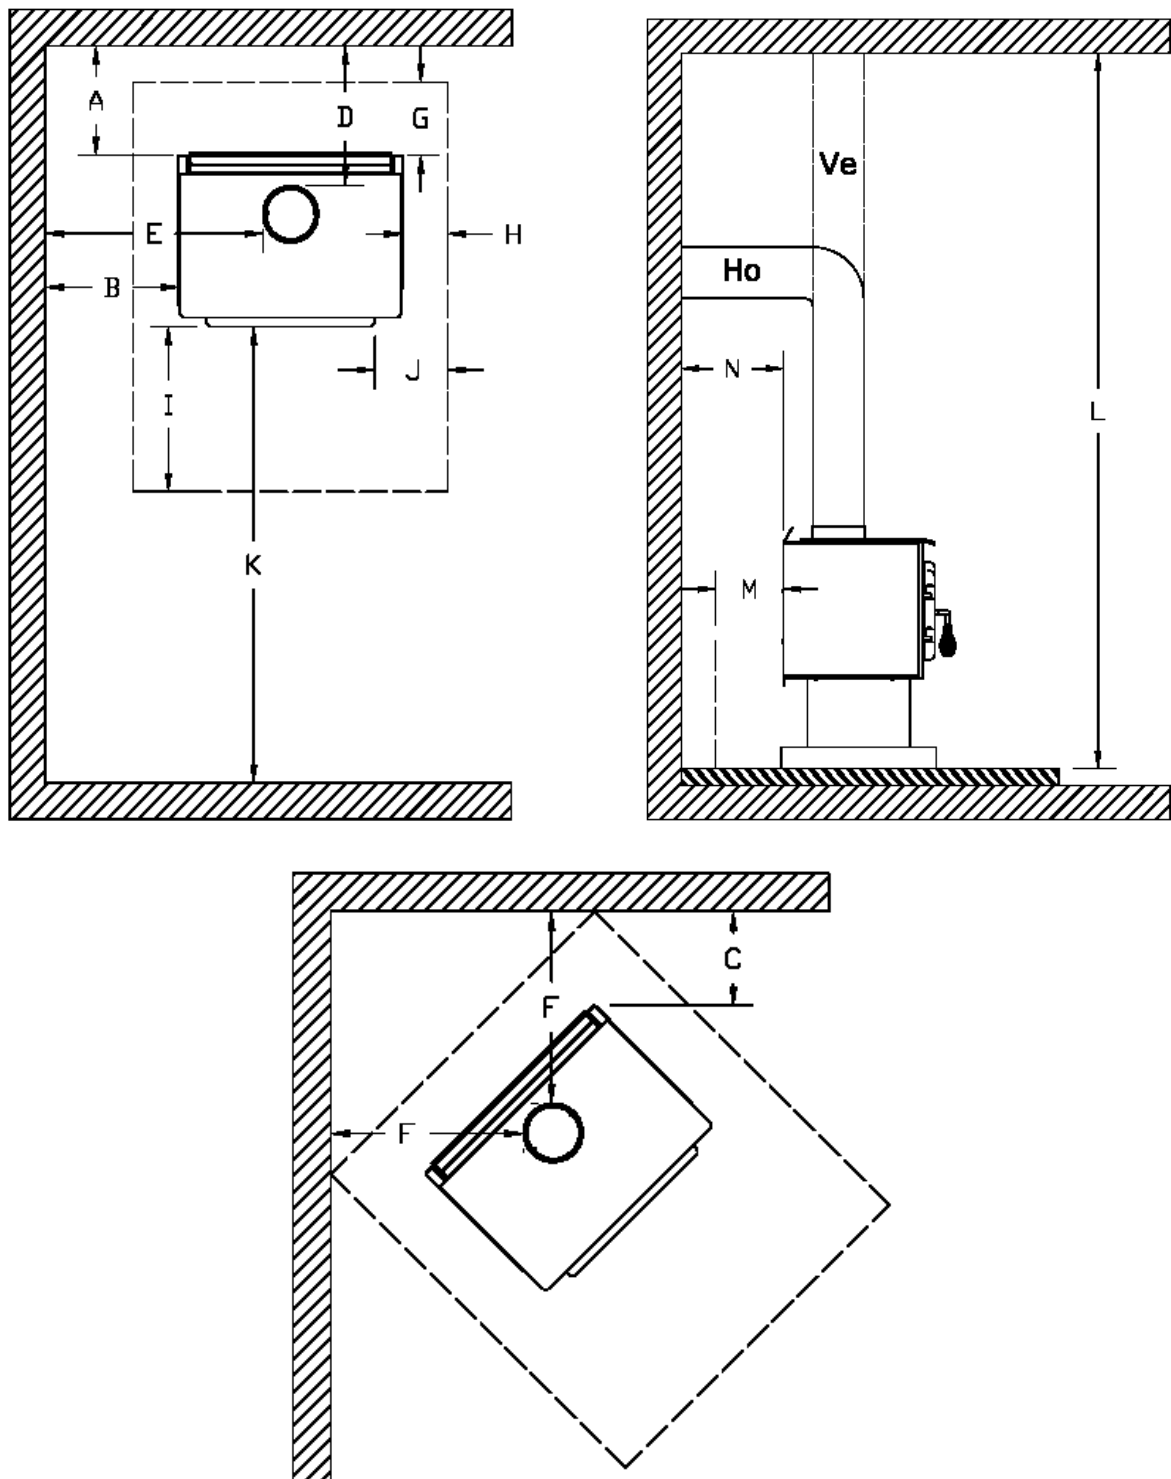

FIGURE 1.1 Clearances to combustibles and floor protection
(see Figure 1.1 to match each letter to a clearance)
If the stove is to be installed on top of a combustible floor, it must be guarded by a non combustible material as shown on Figure 1.1 (see the dotted line area).
2. Mark the location for the floor protection‡ (if required) as noted in Figure 1.1.
If the stove is to be installed on top of a combustible floor it must be guarded by a non-combustible material extending beneath the heater and to the front and sides as indicated in Figure 1.1, or to the nearest permitted combustible material. Floor protection must extend beneath, and 2" (51 mm) to the sides of a horizontal connector if one has been used.